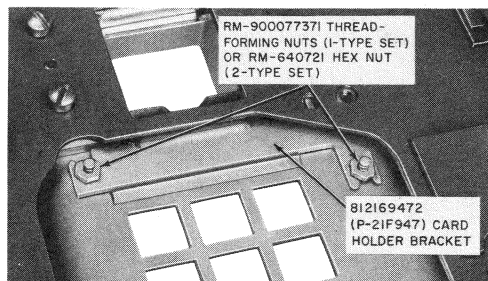

Fig. 29—Card Holder Bracket Installed in TOUCH-TONE Set
- (4) Secure window and number card using the card holder bracket and two nuts (Fig. 29).
- (5) Install dial housing.